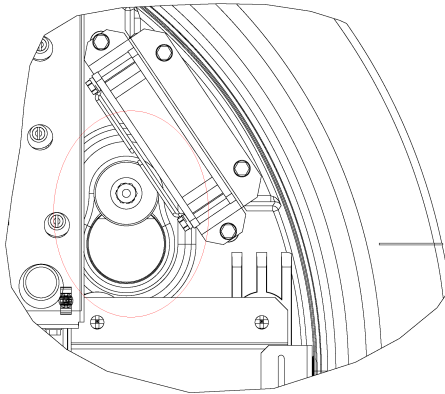

FIGURE 1-3 - MOD BOX LOWERED ON STUDS
3. Push the MoD BoX against wall and lower it onto the studs (see Figure 1-3).